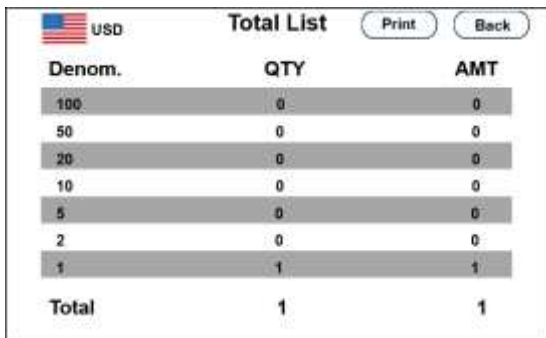
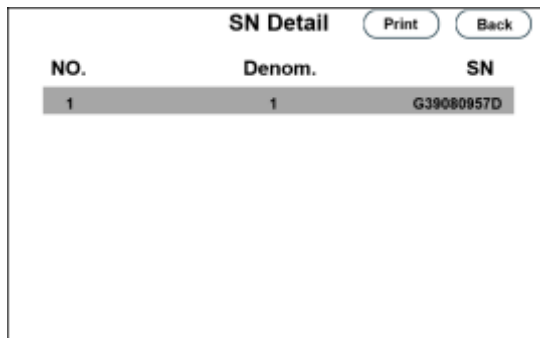

Figure 27
Figure 28
- 2) After the counting is finished, if you want to check the details of the serial numbers, please touch the “Detail” button on the upper right corner of the screen to enter the counting details interface, as shown in Figure 27. Long press the “” key for 3 seconds to enter the SN Detail interface, as shown in Figure 28. If you need to print the current interface, please touch the “Print” button on the upper right corner of the screen, if you need to exit the current interface, please touch the “Back” button on the upper right corner of the screen or press the “” key on the left side.